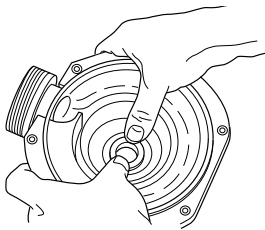

Figure 16
1. Ceramic seat must be clean and free of dirt, grease, dust, etc. Wet rubber cup gasket of ceramic seat with **small** amount of liquid detergent; press into cavity firmly and squarely with finger pressure (Figure 16).